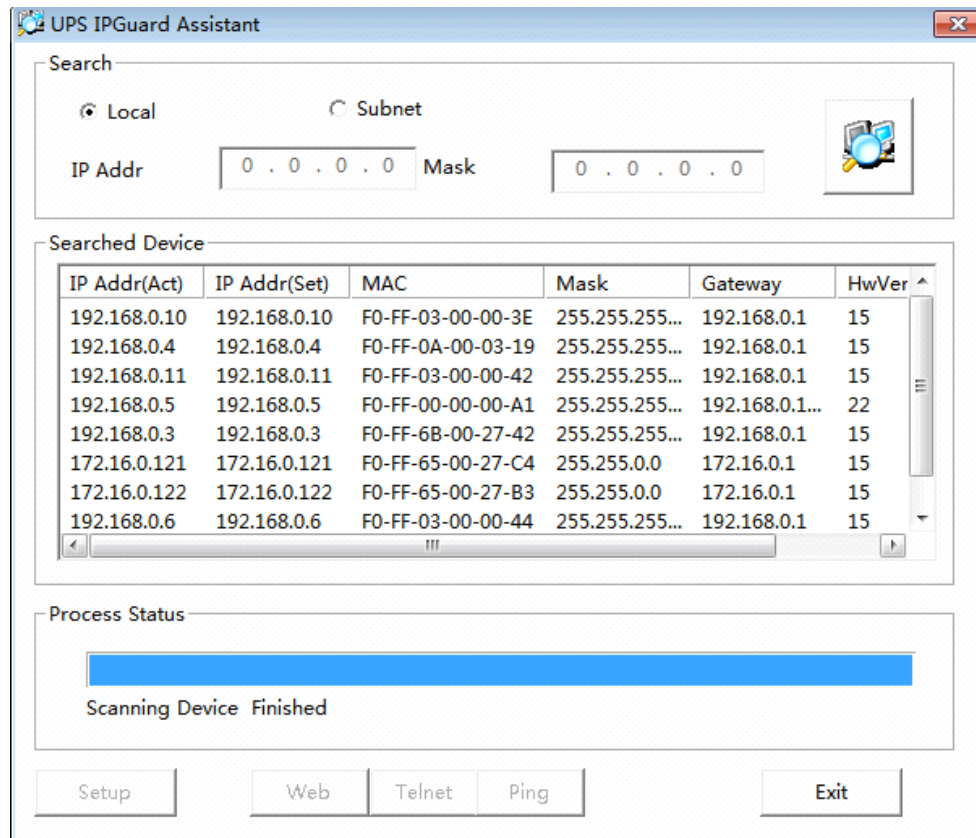

Figure B.2.4
- Install the SNMP card setting assistant ConfigAssist from the CD of the SNMP card kits, open the SNMP card setting assistant on the computer to set the IP address, the interface show in Figure B.2.4